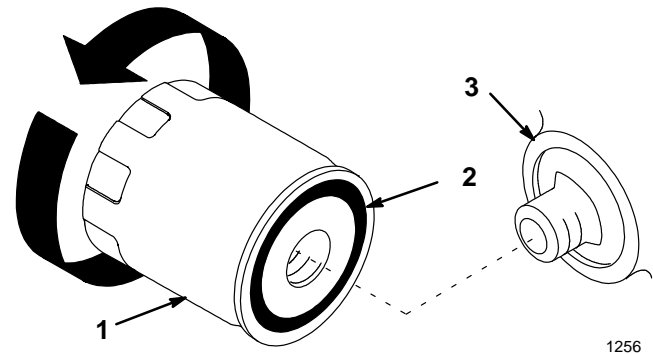

Figure 34A
- Change oil filter. (Fig. 34A).
2. Remove the old filter and wipe the filter adapter (Fig. 34A) gasket surface.
3. Apply a thin coat of new oil to the rubber gasket on the replacement filter (Fig. 34A).
4. Install the replacement oil filter to the filter adapter. Turn the oil filter clockwise until the rubber gasket contacts the filter adapter, then tighten the filter an additional 1/2 turn (Fig. 34A).